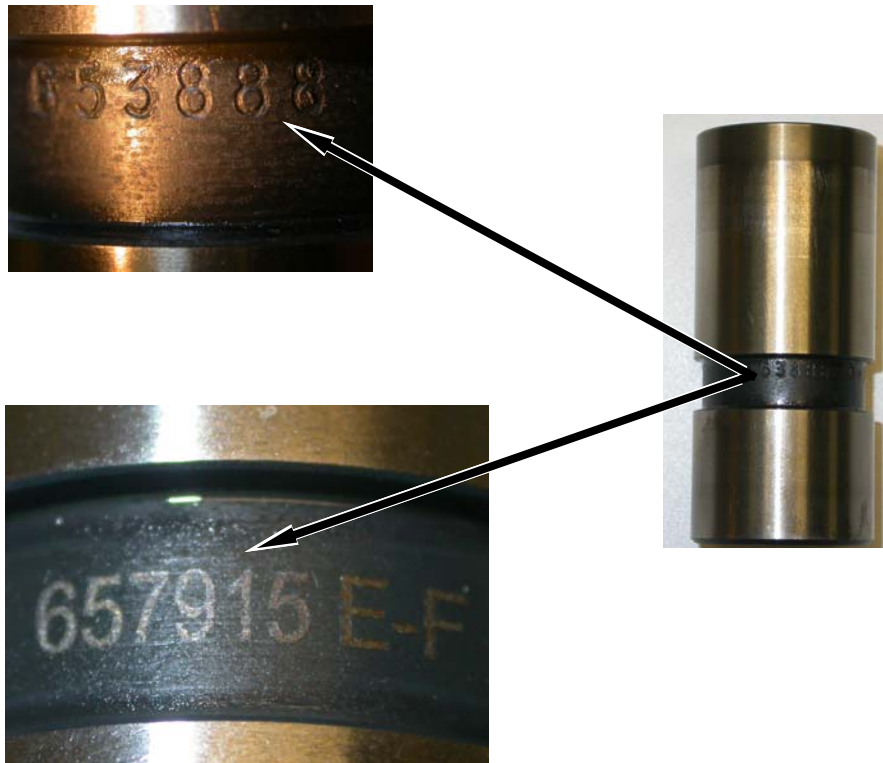

Figure 1. Lifter Part Number Identification
1. Remove all intake lifters according to the Hydraulic Lifter Removal instructions in Section B. The part numbers are either laser-etched or stamped (Figure 1) on the oil transfer groove on the lifter body. Inspect each lifter to identify the part number.